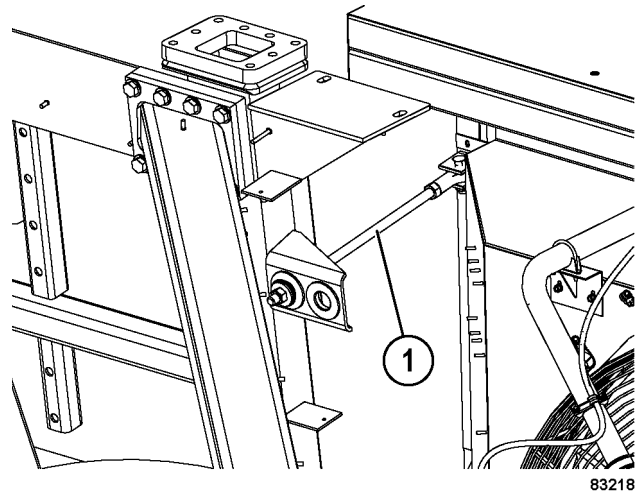

FIGURE 2-7. RADIATOR UPPER SUPPORT ROD
19. Remove radiator upper support rod (1, Figure 2-7) at each side of radiator.